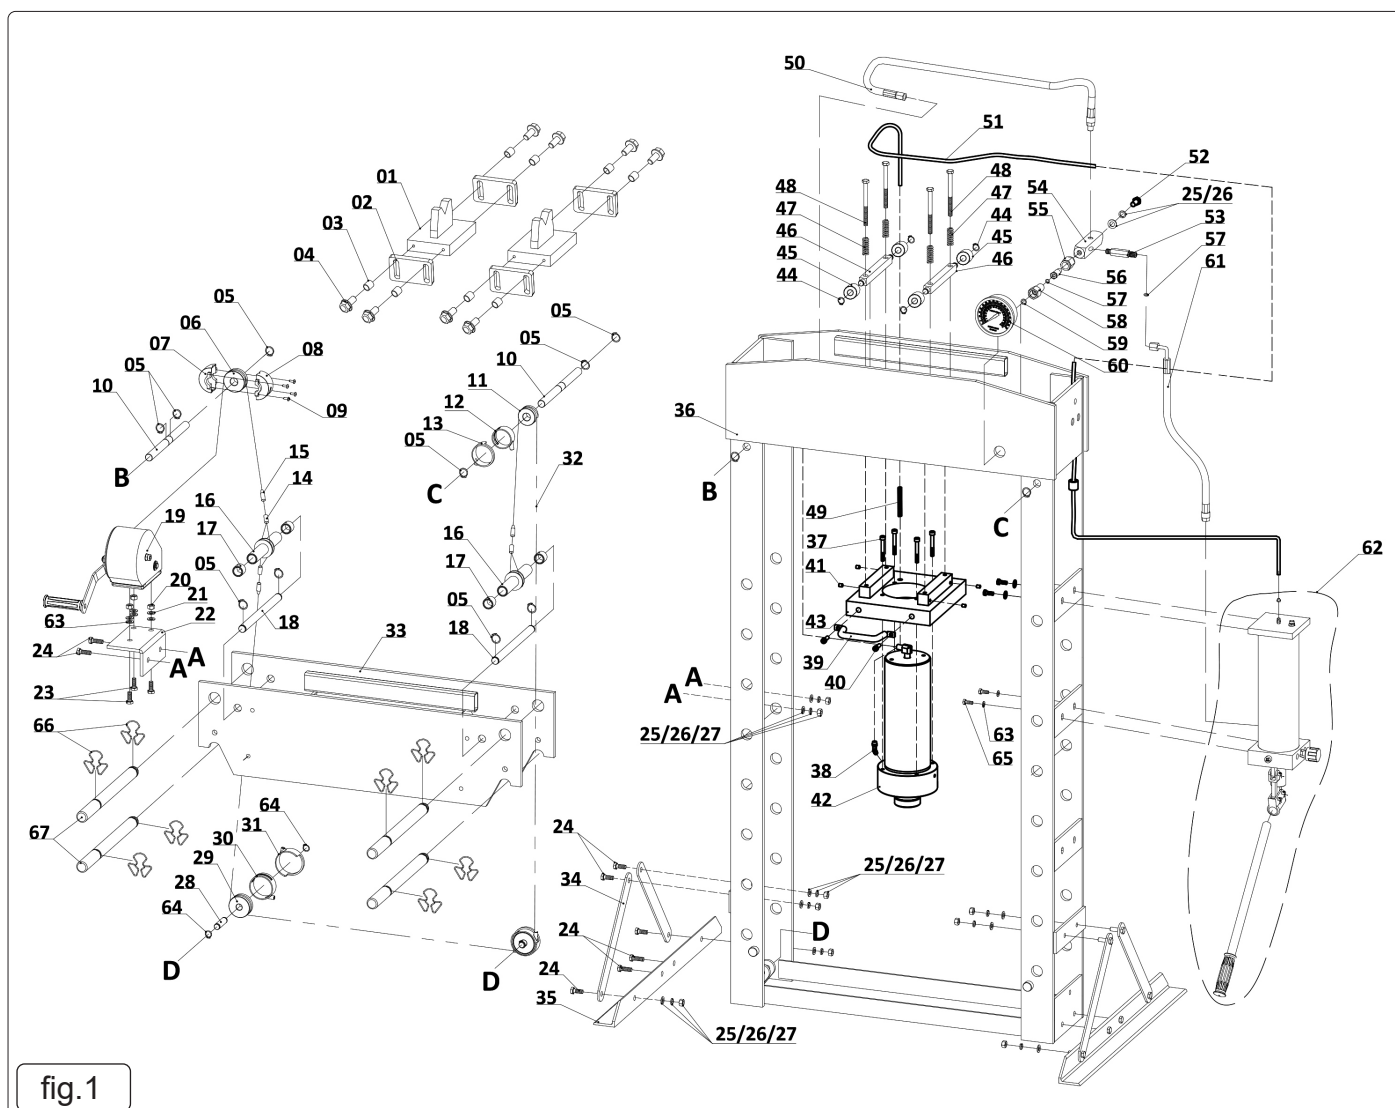

fig.1
- 4.1. YK50F 50TON PRESS ASSEMBLY (use the exploded diagram fig.1 as a guide to assembly).